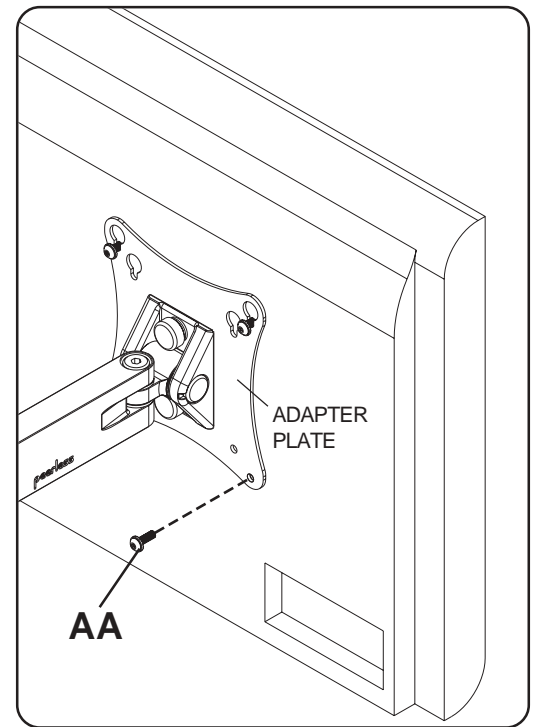

fig. 2.1
- 2 Insert one M4 screw (**AA**) through bottom hole of adapter plate as shown in figure 2.1.